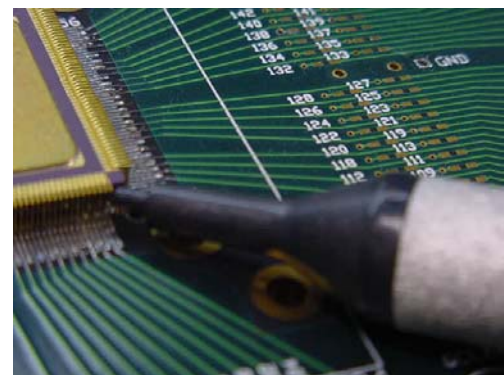

Figure 3 • Applying Glue or Epoxy
3. **Apply glue or epoxy and cure.** Apply a nonconductive epoxy or glue (thermal-conductive, heat, cure type) between the four corners of the backside of the package and the board (Figure 3). Select the material hardness and property based on vibration frequency, system requirements, and application. Applying glue or epoxy holds down the board and absorbs peak energy during the vibration test, which prevents leads from breaking. Applying an adhesive also conducts heat from the device to the system board.